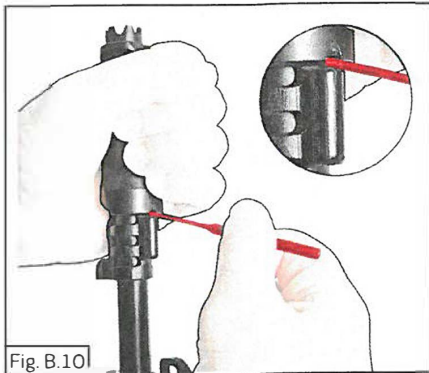

Fig. B.10
- detach the muzzle brake, for this purpose sink the brake retainer, turn the muzzle brake by 180° and detach from the bush as shown in Fig. B.10;